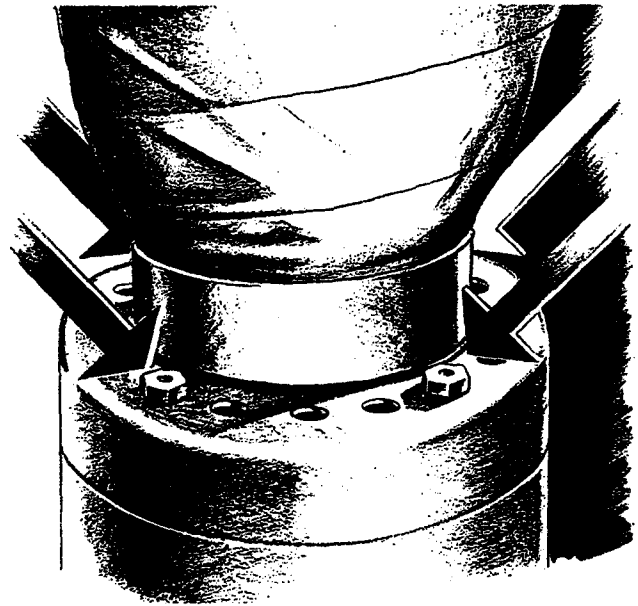

Figure 18
(2) Remove the four bolts that hold the balancing ring to the blade retainer ring. (See figure 18.)